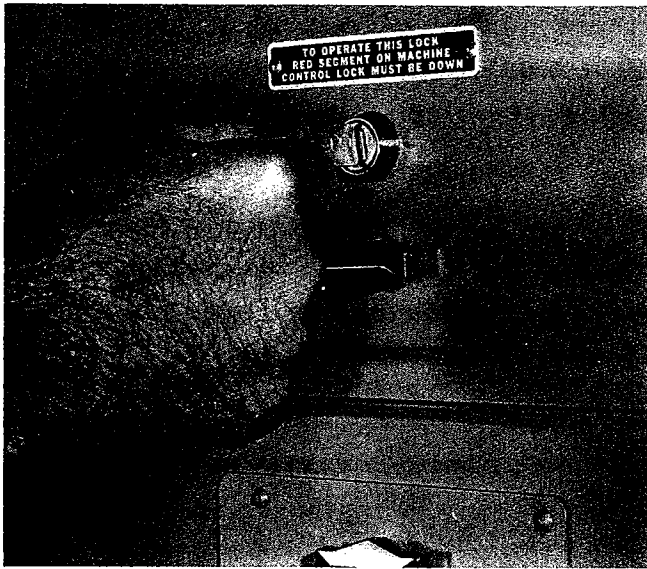

Figure 1. Unlocking Upper Rear Door
1. Insert Key No.3 in lock on Upper Rear Door and unlock. Turn knob to open door. Remove the keys by holding the Upper Rear Door open and turning the knob and key to locked position. (Figure 1)